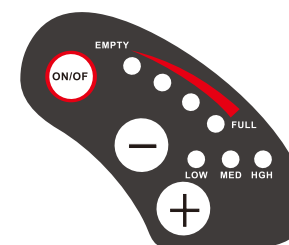

fig.13
3.3 Please refer to the user's manual for operation panel in separate booklet.(fig.13)